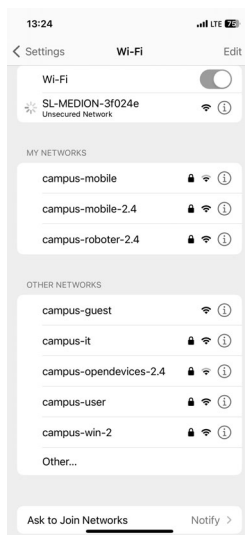

Fig. 9
- ▶ Wait until the connection to the selected network has been established. The pairing process is identified by an animation next to the network name (Fig. 9)